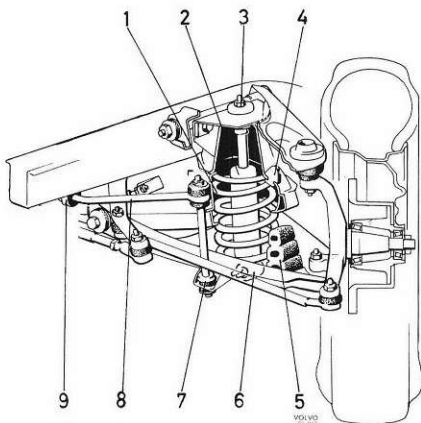

Fig. 7-2. Front spring and shock absorber
The Volvo 140 is provided with coil springs both front and rear. The front wheel suspension is independent. The upper ends of the front springs (1, Fig. 7-2) are seated in housings formed in the front axle member, and are located in the bottom of the lower control arms. The lower control arms are also provided with rubber buffers (5), which absorb any impacts arising from loading on the spring. The front axle member is fitted with rubber buffers (4)
4. Disconnect the steering rod from the steering arm. Loosen the clamp for the brake hoses. Remove the attachment (7, Fig. 7-2) for the stabilizer.
The stabilizer (8, Fig. 7-2), which is attached to both the lower control arms (7) and to the frame (9), increases the stability of the vehicle.